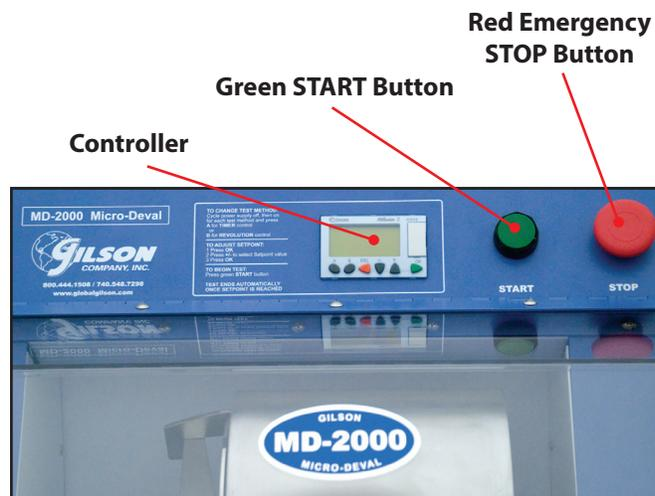

Figure 2
- Press the Green <START> button (see Figure 2) to start the drive motor and check to see that the rear rollers in the top and bottom are spinning smoothly.